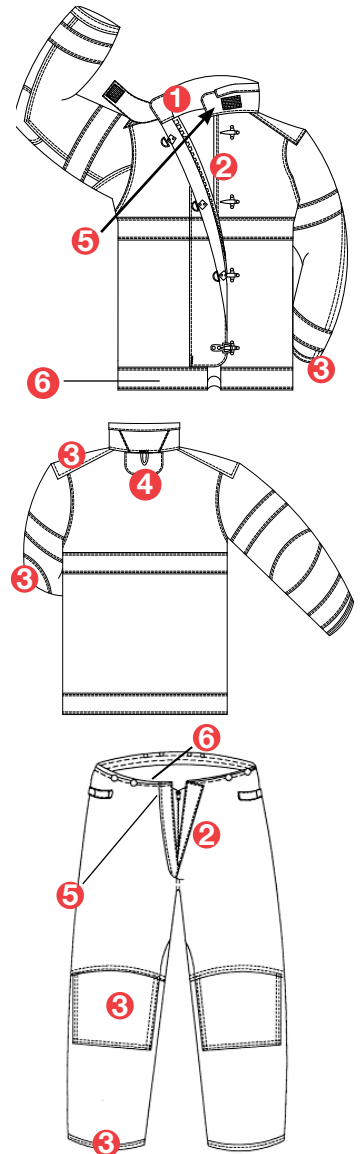

FIG. 4
5.7 OTHER IMPORTANT SAFETY FEATURES (FIG. 4)